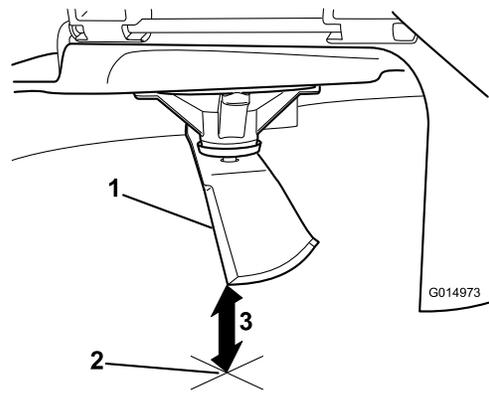

Figure 103
3. Measure from the tip of the blade to the flat surface (Figure 103).